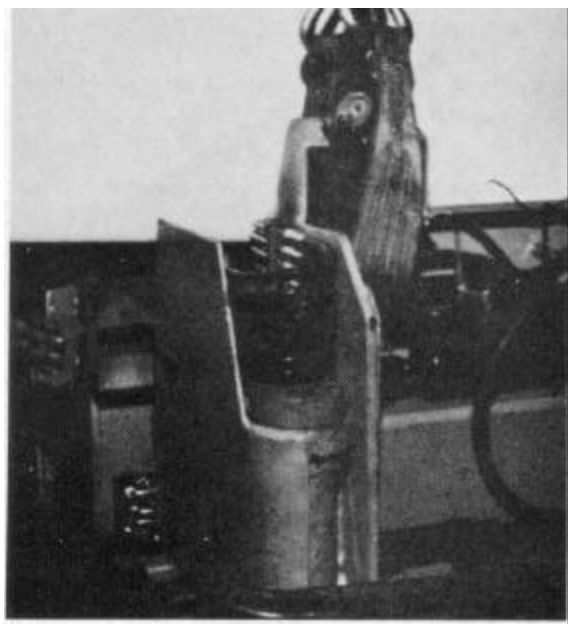

Figure 5-104
3. Rotate the pivot arm counterclockwise until it contacts the stop on the crosshead. Place an adjustable "C" clamp across the pivot joint (Fig. 5-104). Use a clamp with a six inch minimum throat and a six inch minimum to twelve inch maximum opening.
5. Support the pivot arm and crosshead assembly with a webbed sling attached to the overhead crane. Place the sling under the pivot arm rear extension beneath the right tilt cylinder (Fig. 5-104).
6. Remove the four capscrews from the end plate on the upper tail guide channels using a 7/16 wrench. Remove the retainer plate (Fig. 5-104).